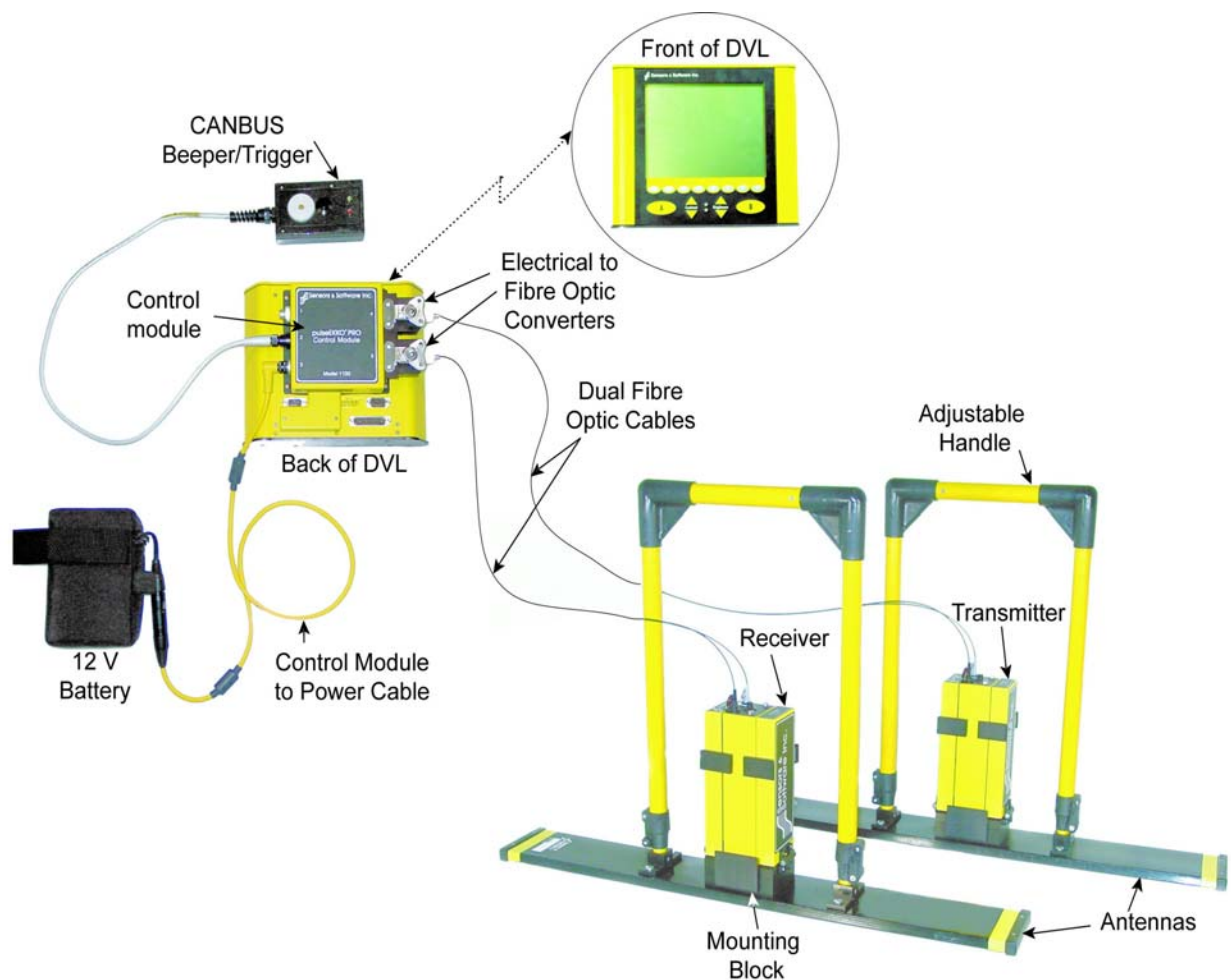
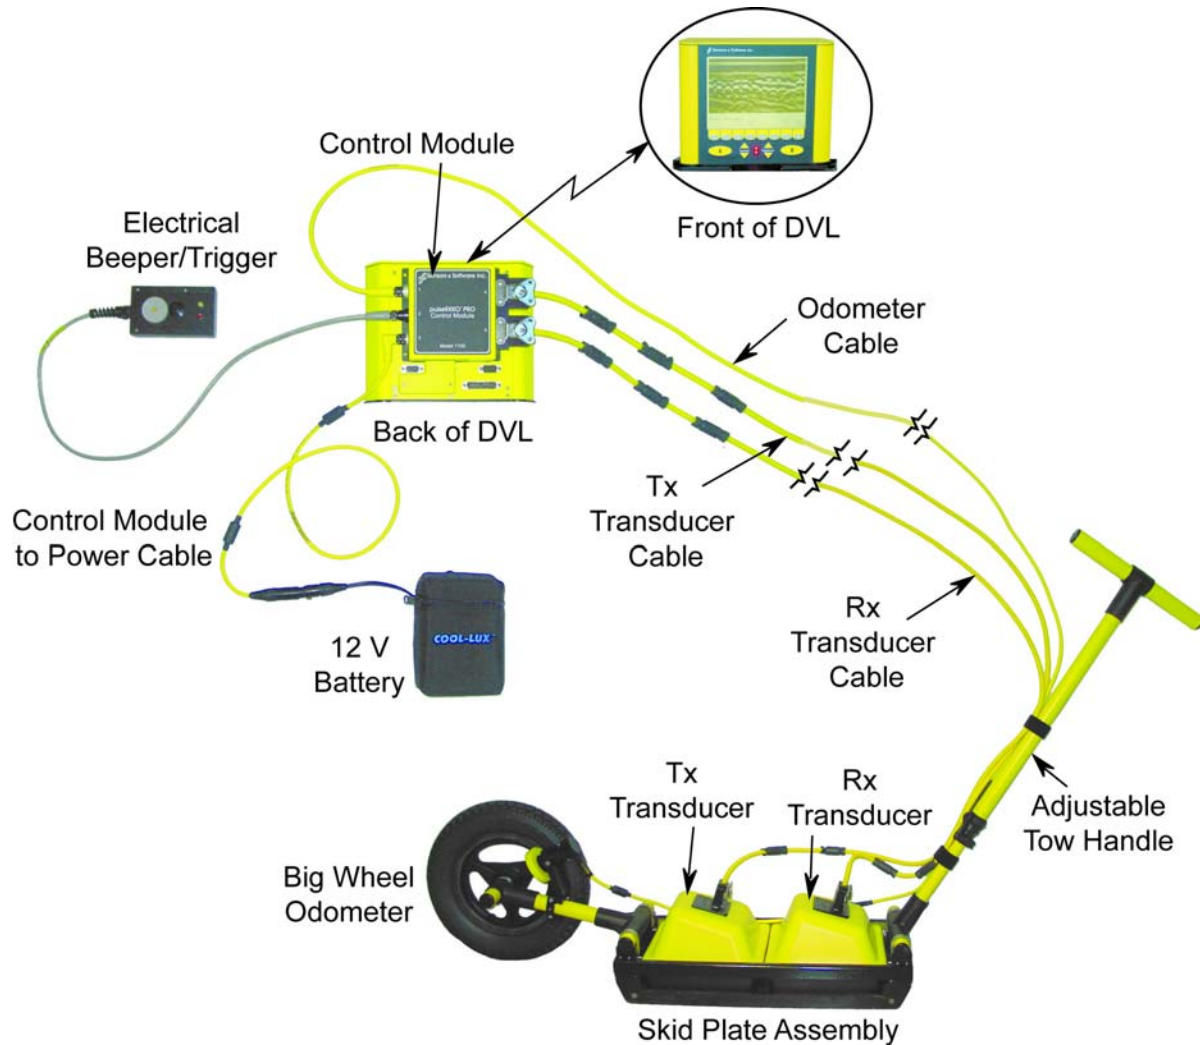

Figure 2-1: The complete low frequency pulseEKKO PRO hand held Assembly
Figure 2-2: The complete high frequency pulseEKKO PRO tow mode assembly.
The modular design of the pulseEKKO PRO GPR makes the system very flexible and readily field-portable in a number of configurations. This section details the steps for assembling the Low Frequency Hand Held (Figure 2-1) and High Frequency Hand Towed (Figure 2-2) configurations.
There are four essential components to the low frequency radar system: the Digital Video Logger (DVL), the control module, the transmitter assembly and the receiver assembly. The control module is attached to the back of the DVL. The transmitter and receiver assemblies are connected to the control module via appropriate fibre optics cables (Figure 2-1).
There are four essential components to the high frequency radar system: the Digital Video Logger (DVL), the control module, the transmitting transducer and the receiving transducer. The control module is attached to the back of the DVL. The transducers are connected to the control module via the transducer cables (Figure 2-2).
- b) To connect the pulseEKKO PRO in the standard configuration shown in Figure 2-1, plug the dual fibre optics cable into the transmitter making sure the colour on the strain relief jacket matches the colour of the receptacle door, black to black and grey to grey (Figure 2-17). Confirm that the fibre optic connection is seated properly by pushing down gently until the connection “clicks” into place.
The Big Wheel Odometer comes with a long cable that extension to allow it to connect to receptacle 1 on the control module (Figure 2-24). The Big Wheel Odometer and odometer cable can be seen in the complete system configuration (See Figure 2-2 on page 3).